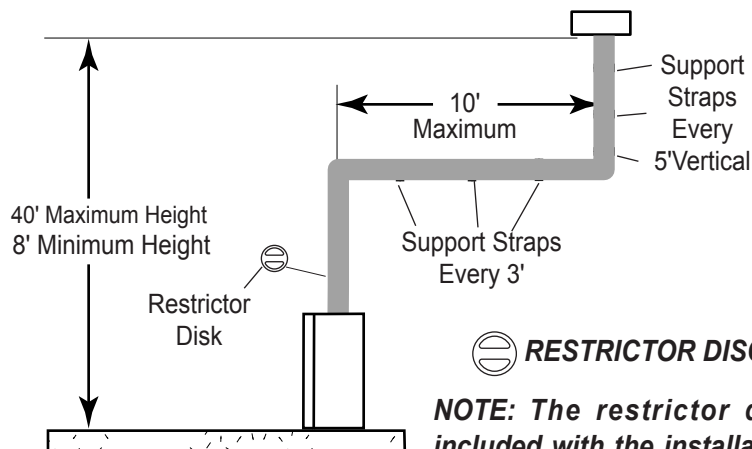

Figure 25- Support Straps for Horizontal Runs
- Vertical installations up to 40' (12m) in height. Up to a 10' (3m) horizontal vent run can be installed within the vent system using a maximum of two 90° elbows. See Figure 25.
**NOTE: If an offset is needed to avoid obstructions, you must support the vent pipe every three (3) feet. Use wall straps for this purpose. See Figure 25, page 22. Whenever possible, use 45° elbows instead of 90° elbows. The 45° elbow offers less restriction to the flow of the ue gases and intake air.**